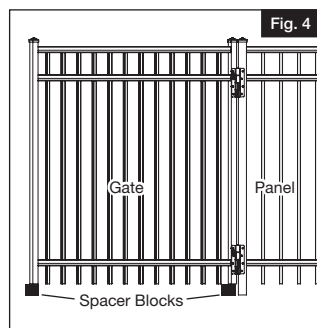

Fig. 4
- c.) Set gate on spacer blocks and hold it level/plumb to the gate post (Fig. 4).